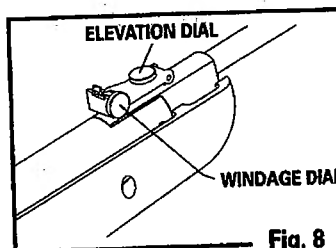

Fig. 8
- Elevation is set by means of the rear sight-elevating dial situated on the rear sight base. Turn the dial counterclockwise to make the pellet hit higher on the target and turn the dial clockwise to make the pellet hit lower on the target. (Fig. 8)
- Windage is set by turning the windage dial located on the right side of the sight. Turn the dial counterclockwise to make the pellet hit to the left on the target and turn the dial clockwise to make the pellet hit to the right on the target. (Fig. 8)